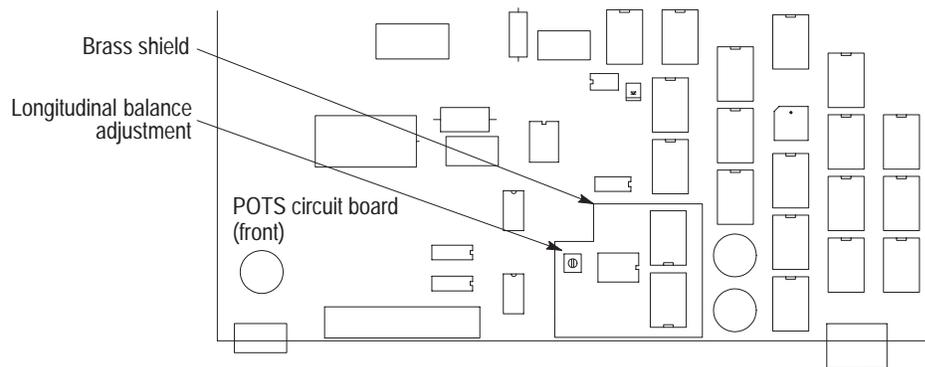

Figure 4-17: POTS Longitudinal Balance Adjustment
4. Access the POTS board through the shield access hole. Adjust R1066 for maximum reading. The reading should be 80 dB or greater (see Figure 4-17).